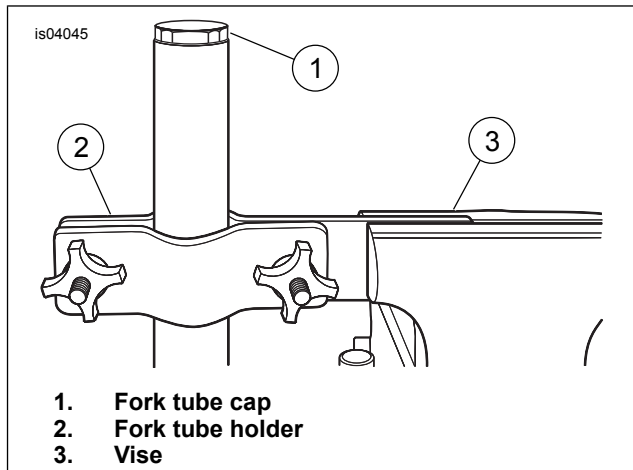

Figure 3. Install Fork Tube into Holder
1. See Figure 3. Obtain FORK TUBE HOLDER (Part Number HD-41177) and proceed as follows:
3. See Figure 3. Carefully remove fork tube cap (1) and O-ring from fork tube. Be aware that fork tube plug is under spring pressure, so have a firm grasp on plug as the last thread is turned.